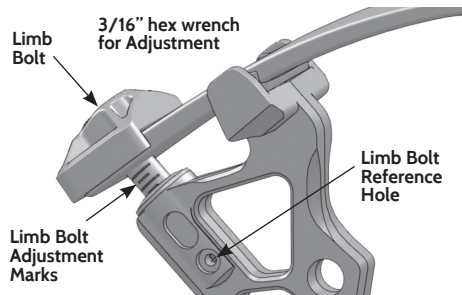

Figure 2. Atomic Draw Weight Adjustment
A new limb bolt design for draw weight adjustment has been introduced by Diamond this year. The limb bolt has been marked with increments to help you set up your bow. Each mark is reflective of approximately 8% of the bows original peak weight. Every bow configuration as seen in Table 1 has a slightly different result so therefore please consult your maximum and minimum draw weights available for each. This new feature is also a useful tool in keeping the limb bolts equal on both the top and bottom of your bow when you are adjusting draw weight. **As a safety precaution, the limb bolts should never be backed out beyond the limb bolt reference hole on the riser while the bow is being shot. Please reference Figure 2.**
1. Before adjusting limb bolts, note setting on limb bolt adjustment marks for future reference. (See Figure 2).